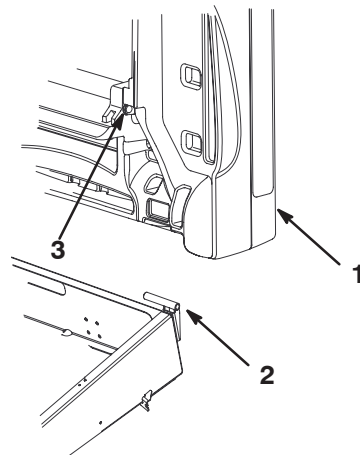

Figure 8
3. Slide the cargo box mounting hole onto the pivot bracket (Fig. 8).